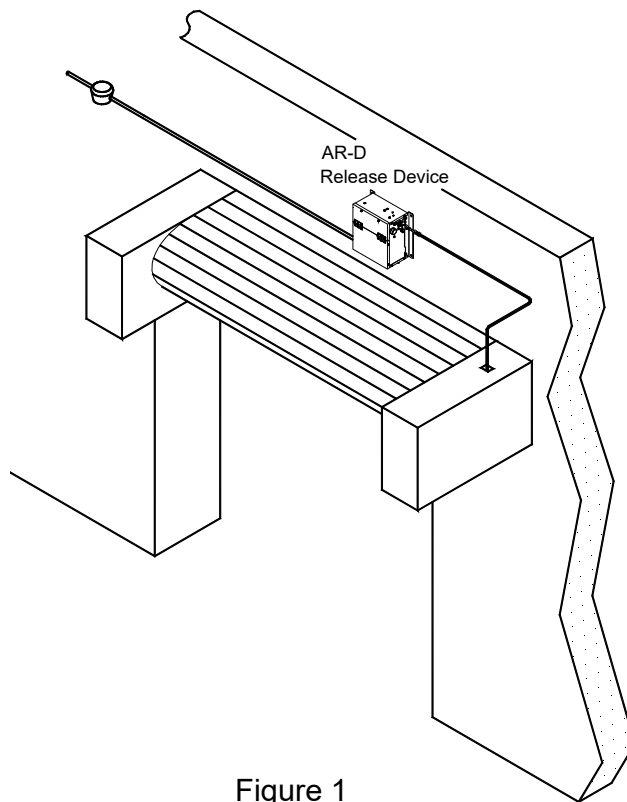
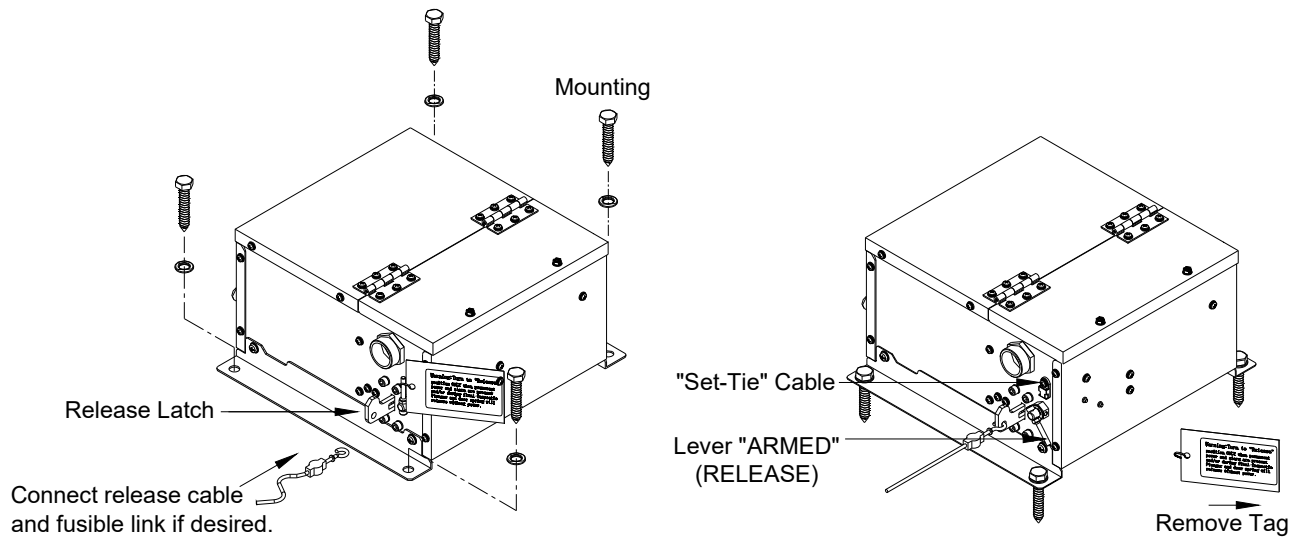

Figure 1
Figure 2
3. The release device shall be mounted on a vertical surface with chain end link exiting side of enclosure as illustrated on figure 1. The unit may be rotated 90 degrees CW for a direct vertical pull.
4. Release device and associated hardware (if required) [sash chain or 1/16 cable, eyebolts, fusible links, turnbuckles] shall be installed as per door manufacturers recommendations (figure 1 typical installation configuration). Note should be taken that the end link direction of pull is perpendicular to the enclosure side. An eyebolt installed at a distance of 18 to 24 inches from the release device should adequately redirect sash chain pull as illustrated in figure 1. Please also see figure 2 for illustration.
7. Connect release cable and fusible link (if desired) as shown in Figure 2.